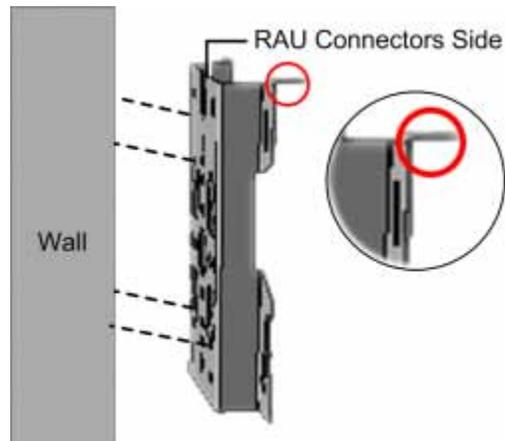
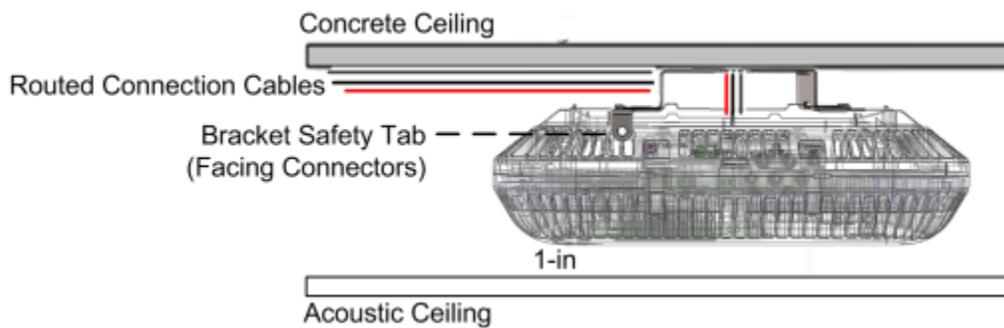

Figure 5-51. Wall Mount Bracket Installation
Figure 5-52. Above Acoustic Ceiling Installation
- When mounting the bracket, the Safety tab (circled in Figure 5-51 and Figure 5-52) should always be positioned to face the same direction as the RAU connectors (up or down).
- When installing above acoustic ceiling, allow for at least 1 inch above the acoustic ceiling for air flow cooling. See Figure 5-52.
Remove mounting bracket from RAU underside and mount the bracket on the wall (Figure 5-51) or concrete ceiling (Figure 5-52) using any of the applicable screw holes (screws not provided).